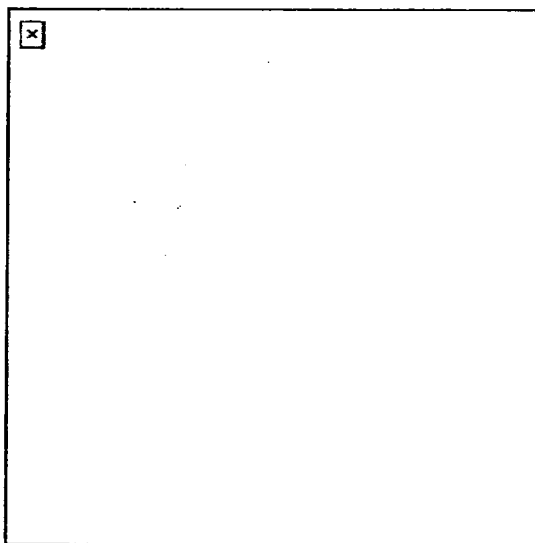

Figure 1
2. Install the batteries (Figure 1).